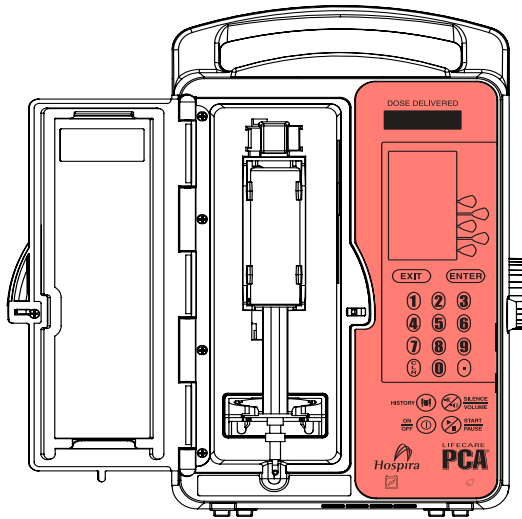

Figure 8-3.
1. Turn the infuser upright to view the front of the infuser (see Figure 8-3).
2. Using a lint-free cloth dampened in the approved cleaning solution or wipes, carefully wipe the keypad and display screen highlighted in Figure 8-3.